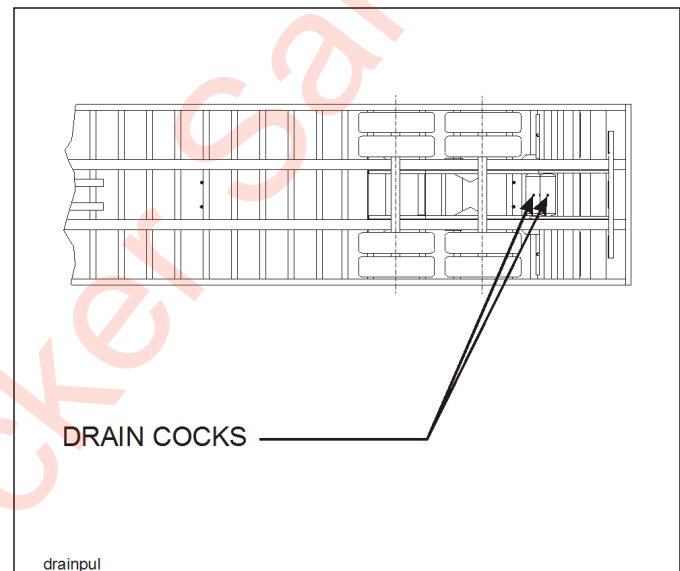

Figure 4-7: Drain Cock Locations
4. Drain air reservoir daily. A drain cock on the bottom of each air reservoir vents the tank to drain collected water and oil. If held open, air pressure in the tanks is relieved, causing the emergency or parking brakes to be applied (**See Figure 4-7.**)